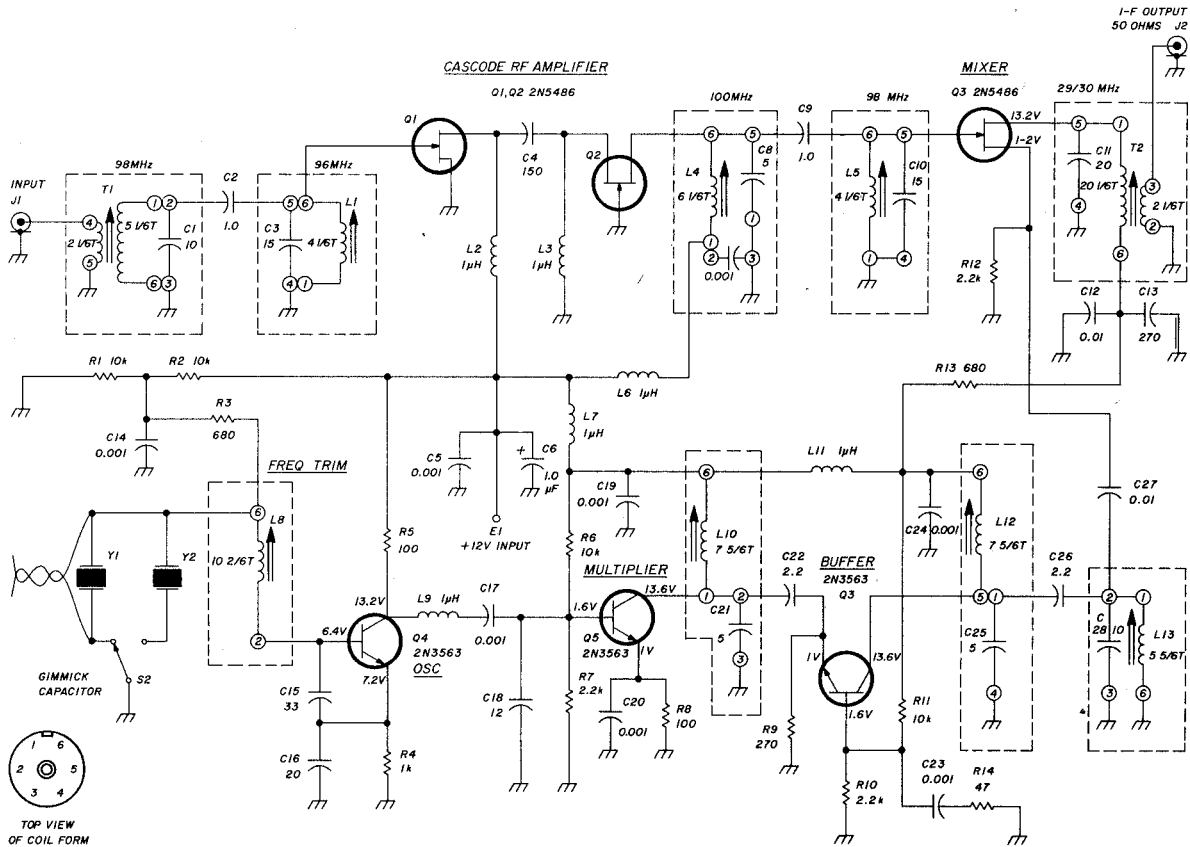
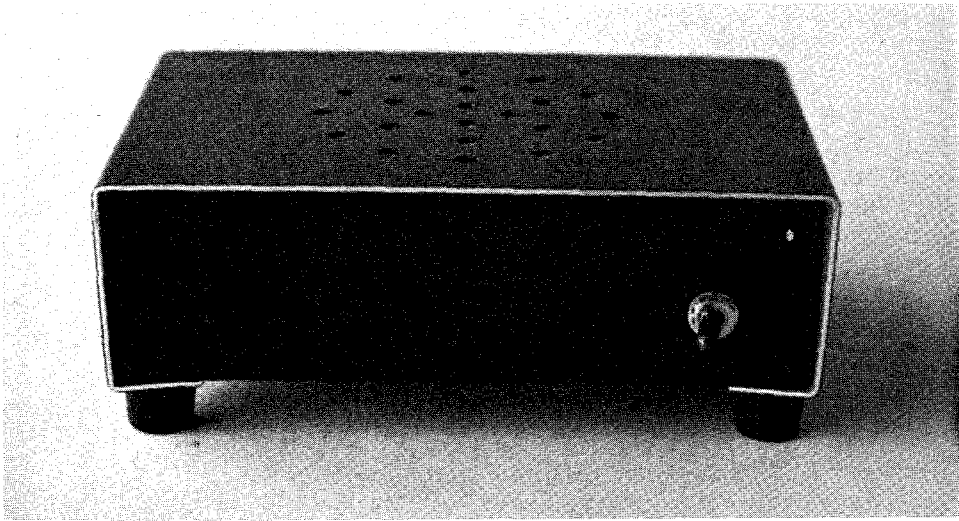

Figure 13-3.
Figure 13-4. C25-150 Converter In Poly Paks Cabinet - Front View - Photo.
The C25-150 VHF converter schematic, illustrated in *Figure 13-3*, is a straightforward design that may be assembled and tested in only a few hours. I've found no sneaky or tricky problems with this kit after building two of these converters. The printed circuit board measures 2-½ by 4-½ inches (64 by 114 mm) and fits into the Poly Paks black vinyl cabinet shown in *Figure 13-4*. Although somewhat difficult to see, the front panel consists of only an on-off switch on the right side and a red LED on-off light in a Ciplite^(tm) panel-mount holder on the left side.
Referring to *Figure 13-3*, note that an N-channel FET cascode rf amplifier using 2N5486s is used, which is almost identical to the J8 Gunnplexer i-f preamplifier covered in Chapter 6 except for the double-tuned input and output stages, which simplifies tuning for wide bandpass response. The number of turns for each coil at the frequencies noted are shown on the schematic. The mixer also uses an N-channel 2N5486 transistor with oscillator injection of 69 MHz for 29-MHz output and 68 MHz for 30-MHz output.
If you wish the option of switching between 29 and 30 MHz crystal-controlled converter output, the simple way to do this is to add a spdt mini-toggle switch, S2, where the on-off LED is located on the front panel. Connect one end of the 34.5-MHz crystal, X1, (29-MHz i-f) and the 34.0-MHz crystal, X2 (30-MHz i-f) to the junction of R3 and L8. Connect the other end of each crystal to each side of S2, as shown in *Figure 13-3*.
The crystal oscillator circuit is the old reliable tuned-plate, tuned-grid (TPTG) with a transistor. It's completely foolproof, easy starting, and will work with most anything except a broken crystal. If you plan to switch back and forth between 29 MHz - 30 MHz inputs frequently, install a spdt mini-toggle switch similar to the arrangement shown in *Figure 13-3* for easy frequency switching.
3. If you wish super frequency accuracy for the *Crystalmatic* system described in the next chapter, now is the time to connect a digital frequency counter to the junction of R3 and R4 (through a 22-k isolating resistor) on the PC board. Using homebrew gimmick capacitors across each crystal (see *Figure 13-3*), trim each gimmick until each crystal output is exactly on frequency.